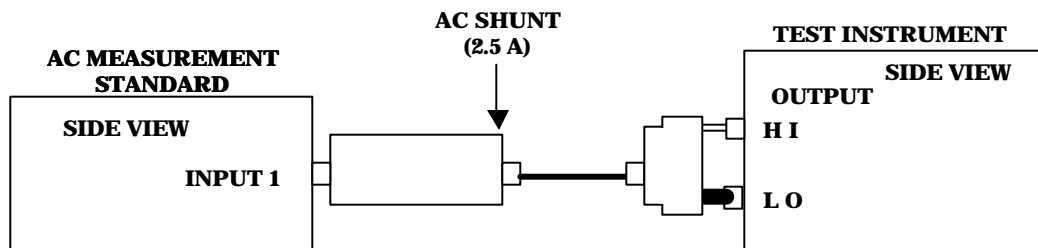

Figure 8. Ac current (10 mA to 2 A)
(1) Connect equipment as shown in figure 8. Press **INPUT 1** pushbutton on ac measurement standard.